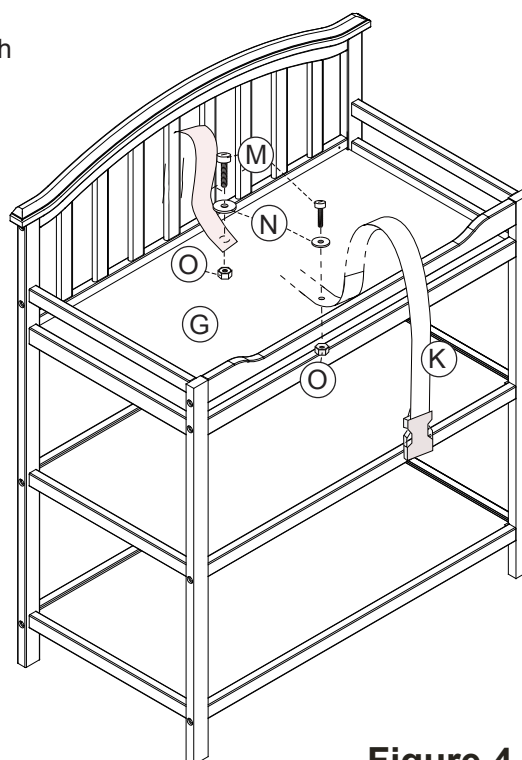

Figure 4
Step 4 Safety Harness Assembled as Figure 4 shows.